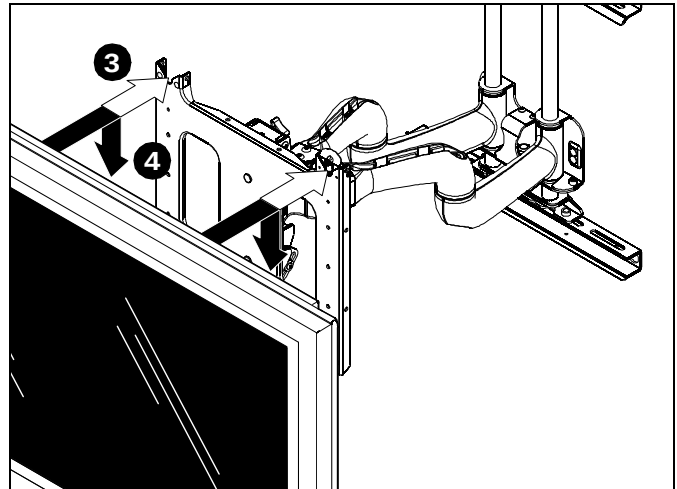

Figure 5
3. While supporting both sides of display, align four mounting buttons on display or interface bracket with four mounting holes in faceplate. (See Figure 5) and (See Figure 6)
4. Lower display into place listening for audible "click" to ensure recessed area of mounting buttons are properly seated in lower area of mounting holes and ClickConnect mechanism engages. (See Figure 5) and (See Figure 6)